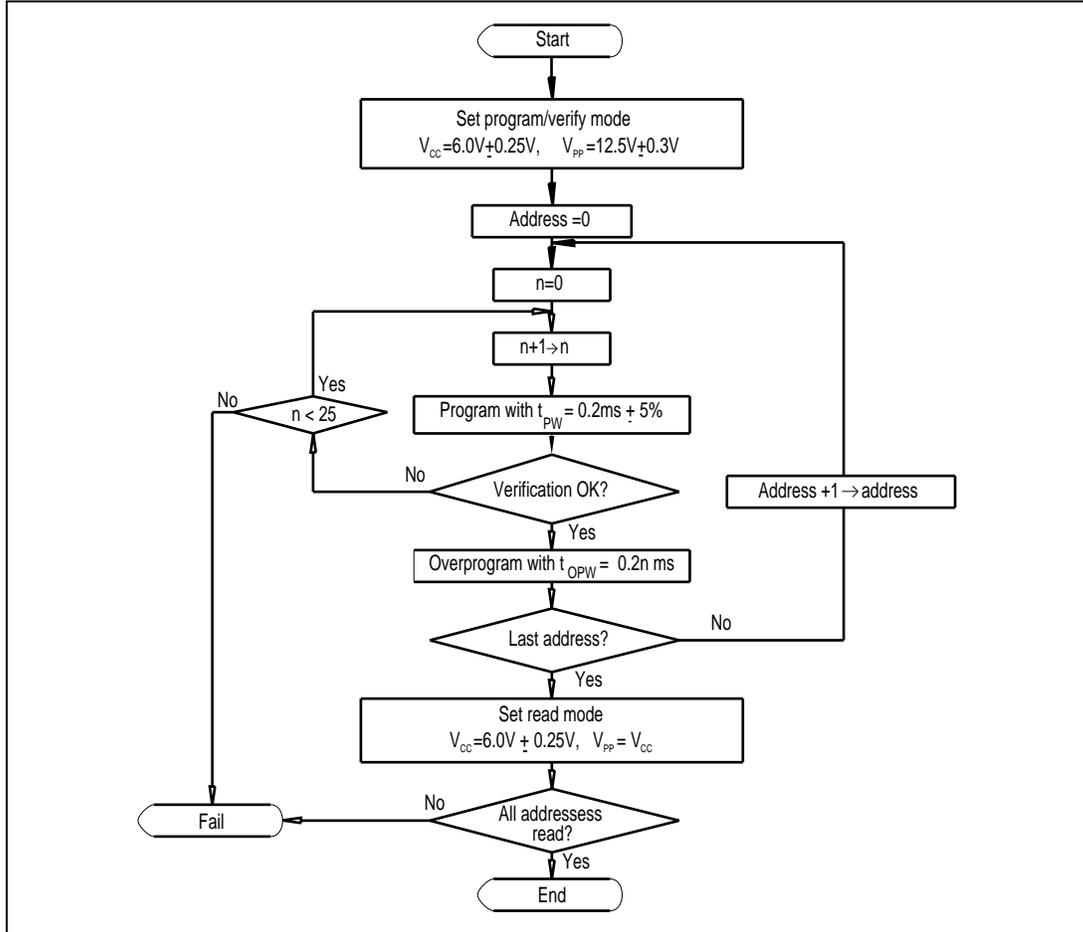

Figure 6-4 High-Speed, High-Reliability Programming Flow Chart
An efficient, high-speed, high-reliability programming procedure can be used to program and verify data. This procedure programs the chip quickly without subjecting it to voltage stress and without sacrificing data reliability. Figure 6-4 shows the basic high-speed, high-reliability programming flow chart.
3. t_{OPW} is defined by the value given in the programming flow chart in figure 6-4